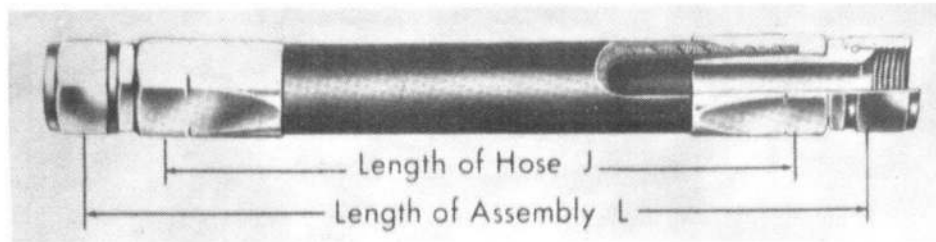

Fig.2 Length of hose in a hose assembly
3. The length of hose in a hose assembly (fig. 2) is determined by subtracting the cut off factor for each end fitting from the length of the hose assembly. The cut off factor is an important consideration when manufacturing a hose assembly if the hose assembly length tolerances are to be met. Each size of each type of fitting has a unique cut off factor and these are listed in Chapter 2 with the fittings applicable to the types of hose used in Service aircraft.